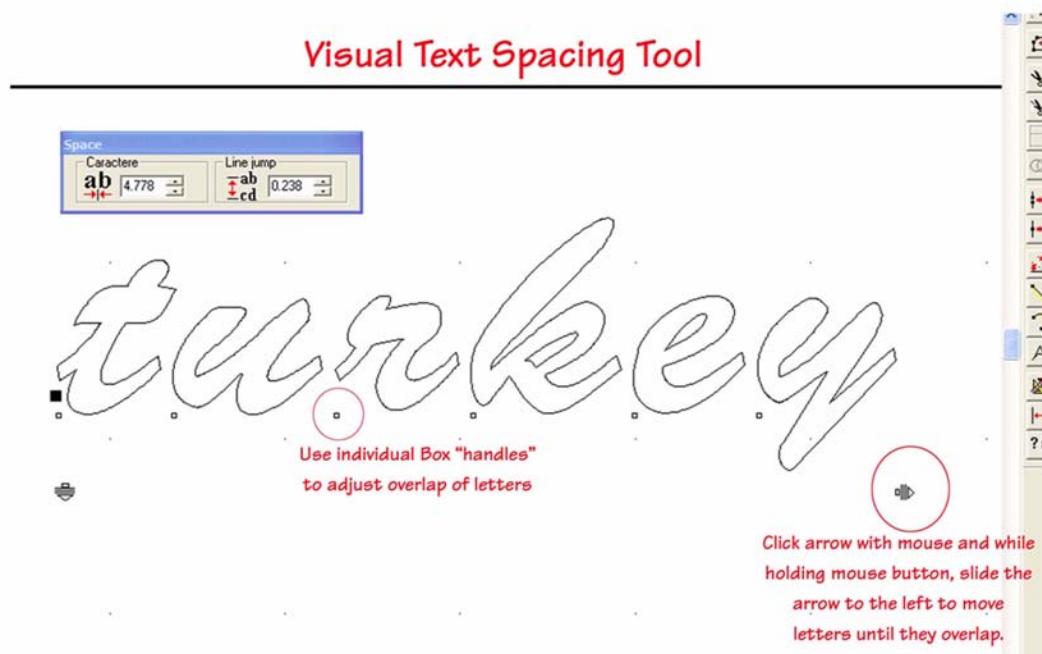

Figure 149
- 2 On the **Text** menu, click **Visual Text Spacing**. Visual Text Spacing places a little box under each letter and an arrow pointing to the right under the word. See figure 149.